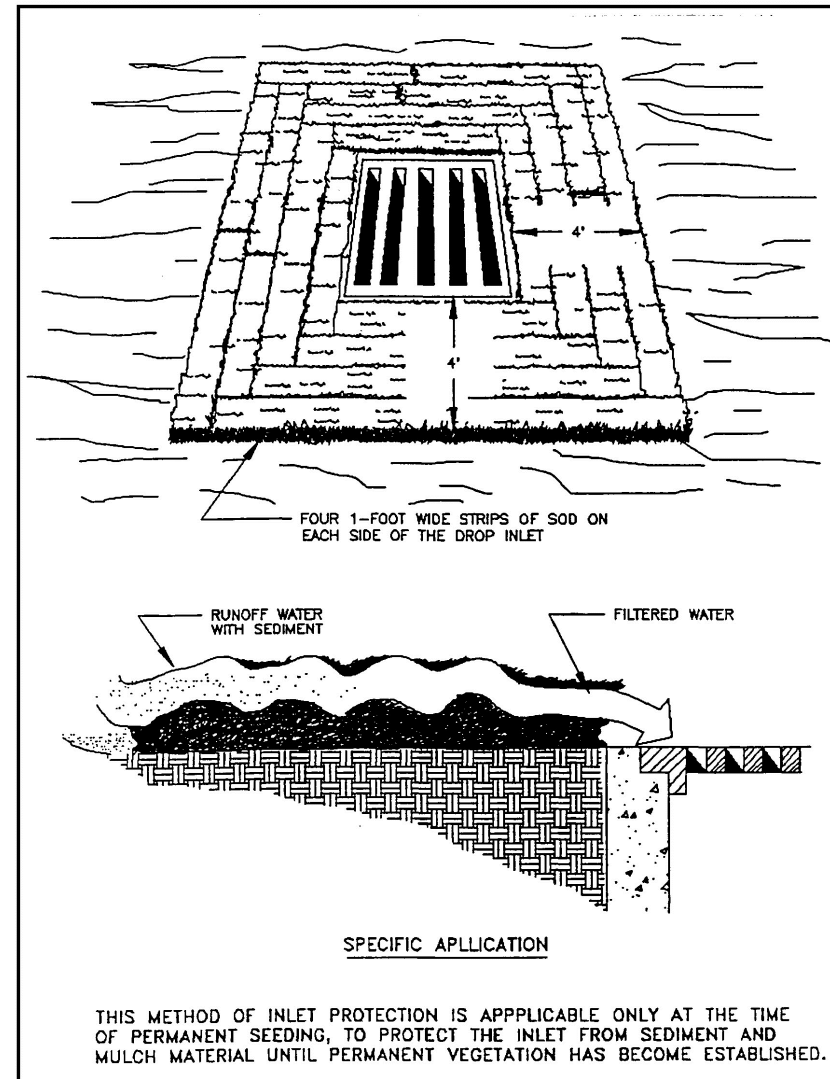

Figure 4.5f. Sod Drop Inlet Sediment Filter
2. Sod shall be placed to form a turf mat covering the soil for a distance of 4 feet (1.2 m) from each side of the inlet structure (see Figure 4.5f).